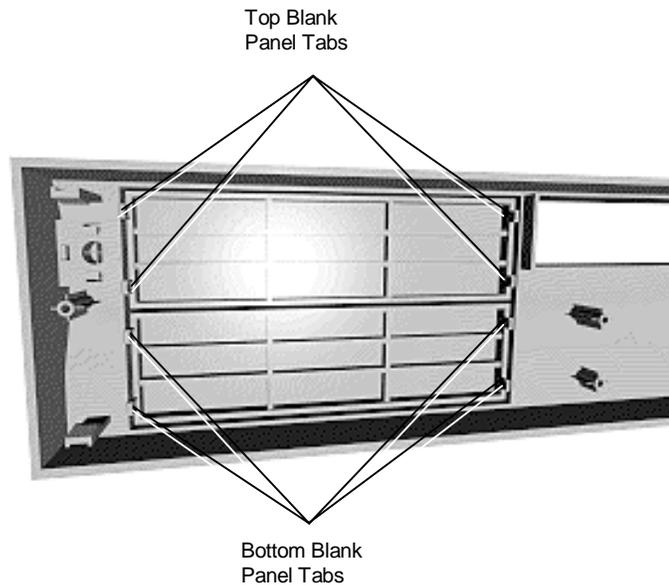

Figure 3-23 Locating the Blank Panel Tabs
4. Remove the blank panel from the selected bay by pressing the panel tabs from inside the front panel and pushing the blank panel out (see Figure 3-23).